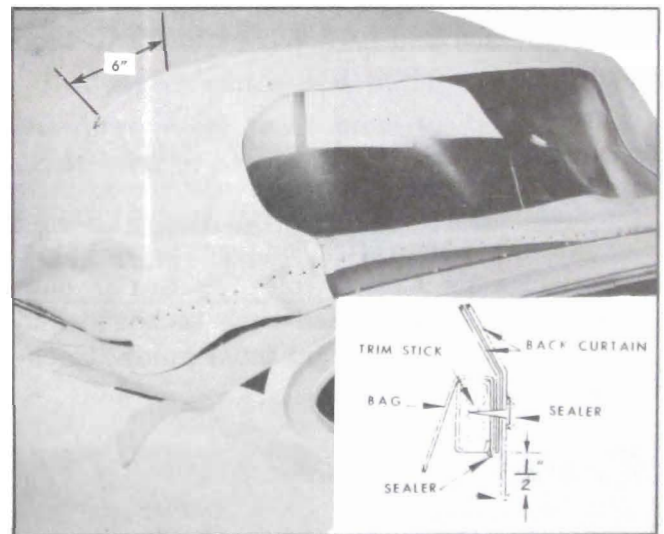
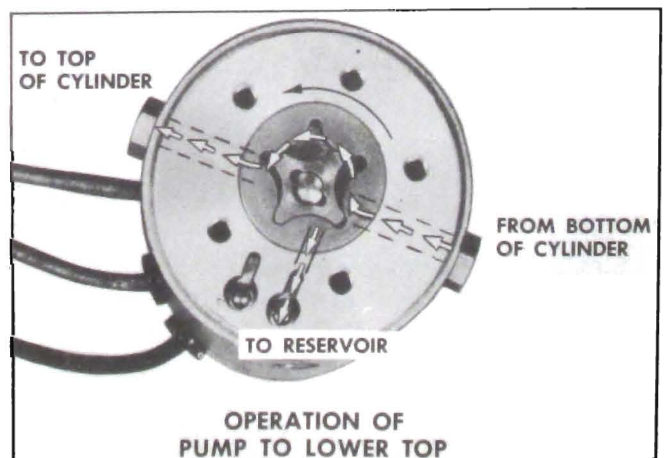

Figure 13-114—Top Attachment at Rear Trim Stick
Figure 13-119—Lowering Convertible Top
27. Apply a continuous bead of 3M Super Weatherstrip Adhesive (or equivalent) to the tacked edge of the back curtain upper valance as indicated at "A" in the inset in Figure 13-119. Allow adhesive approximately 10 minutes to air-dry.
28. Draw forward section of the top material rearward to desired tension (not "drum" tight) and tack material to rear bow as shown in Figure 13-119. Trim off excess material. NOTE: The tacks outboard of seams should be restricted to a distance not to exceed six inches, which is the length wire-on binding extends past seam as indicated in Figure 13-114.
30. Detach rear trim stick and tack outer ends of back curtain and top material to stick as shown in inset in Figure 13-114. Use marked line as locating reference.
31. Brush 3M Convertible Top Sealer onto all trimmed edges, around each tackhead and around each trim stick attaching bolt hole. See inset in Figure 13-114.
2. *Lowering the Top.* When the green motor lead is energized the motor drive shaft turns the rotors counter-clockwise as indicated by the large arrow in figure 13-119. The action of the pump rotors forces the fluid under pressure to the top of each cylinder. This action causes the fluid below the piston in each cylinder to be forced into the pump which recirculates the fluid to the top of each cylinder. The surplus hydraulic fluid due to piston rod displacement flows into the reservoir as shown.